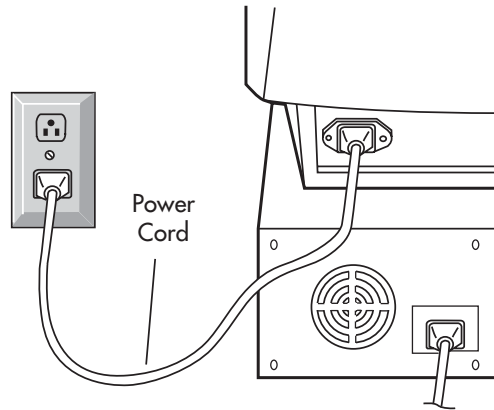

Figure C.1
5. Connect one end of the power cord to the Diamond Pro monitor and the other end to the power outlet (Figure C.1).